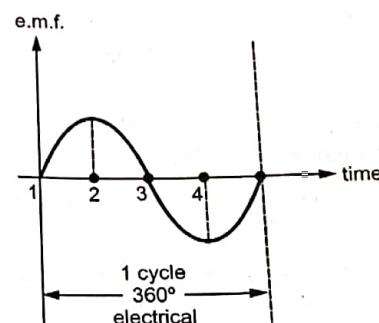

Fig. Q.72.2 Alternating nature of e.m.f.
- So if we plot the magnitudes of the induced e.m.f. against the time, we get an alternating nature of the induced e.m.f. as shown in the Fig. Q.72.2.